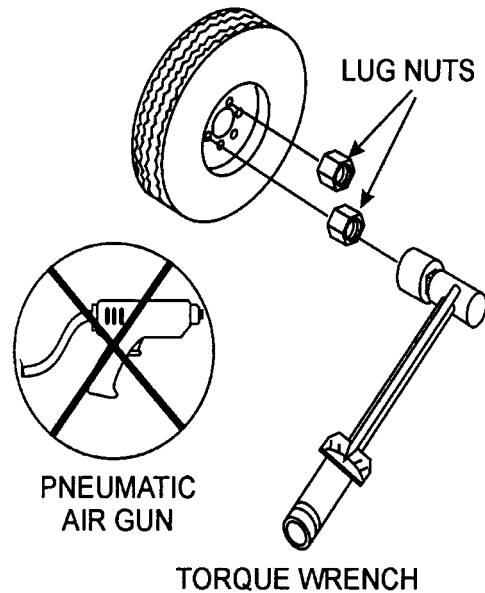

Figure 3. Wheel Lug Nuts Tightening Sequence
12. **Lug Nuts** - Used to secure the wheel to the wheel hub. Always use a torque wrench to tighten down the lug nuts. See Table 4 and Figure 3 or lug nut tightening and sequence.
2. Torque all lug nuts in sequence. See Figure 3. **DO NOT** torque the wheel lug nuts all the way down. Tighten each lug nut in 3 separate passes as defined by Table 4.